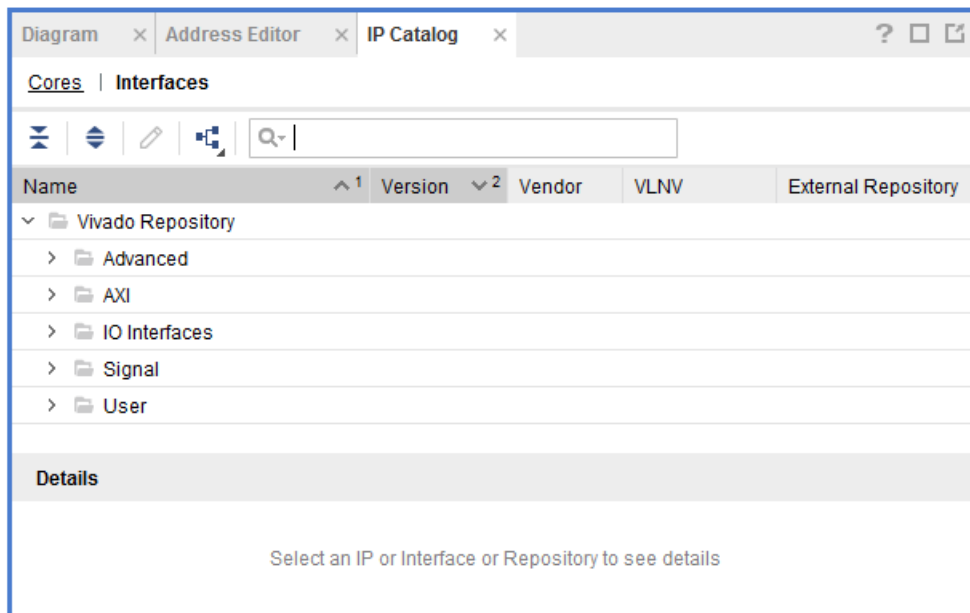

Figure 2-6: Xilinx IP Catalog - Interfaces
- **Interfaces:** A list of available interfaces, shown in Figure 2-6.